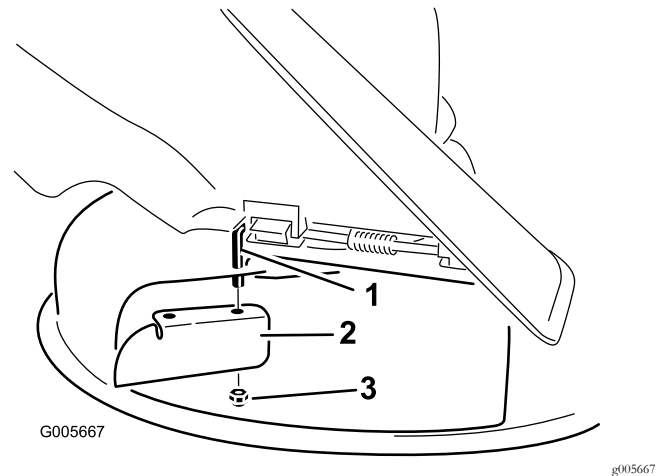

Figure 14
7. Install the cutoff baffle to the exposed pivot rod (Figure 14).
3. Remove the cutoff baffle from the mower deck (Figure 14).